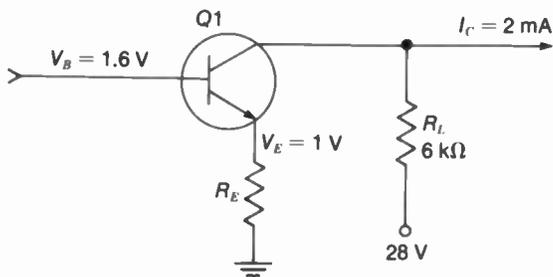

FIGURE 28-18 FOR PROBLEM 1.
1. Refer to the CE amplifier in Fig. 28-18 with  $R_L$  in the collector circuit. Calculate: (a) Normal  $V_C$ ; (b) Normal  $V_{BE}$ ; (c)  $V_C$  with  $R_E$  open.